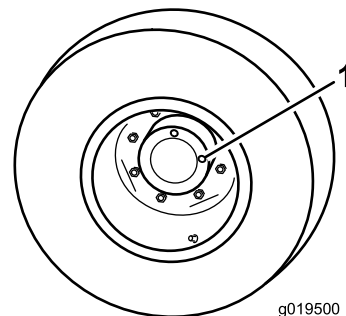

Figure 104
1. With machine on level surface, position the wheel so 1 check plug is at the 12 o'clock position and the other is at 3 o'clock position (Figure 104).
1. Check/drain plug (2)
2. Remove the plug at the 3 o'clock position (Figure 104).